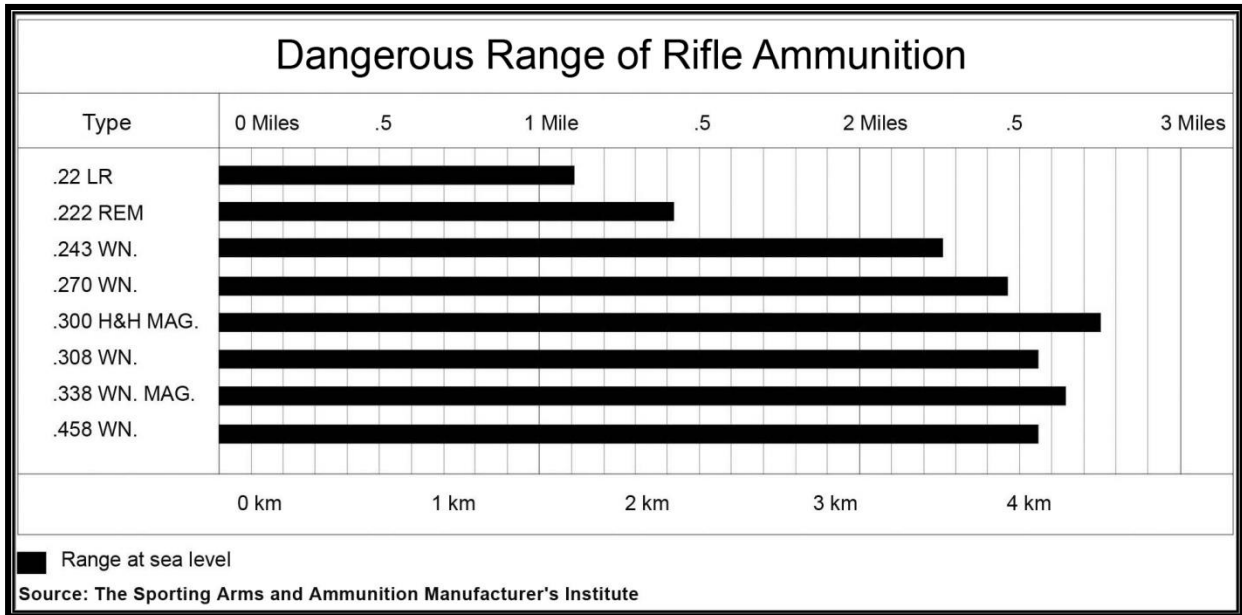

Figure 37. Dangerous Range of Rifle Ammunition
- e. You want to hunt or shoot safely. Therefore, you need to know how far your projectile will travel. That means that you need to know the dangerous range (Figures 37 and 38).